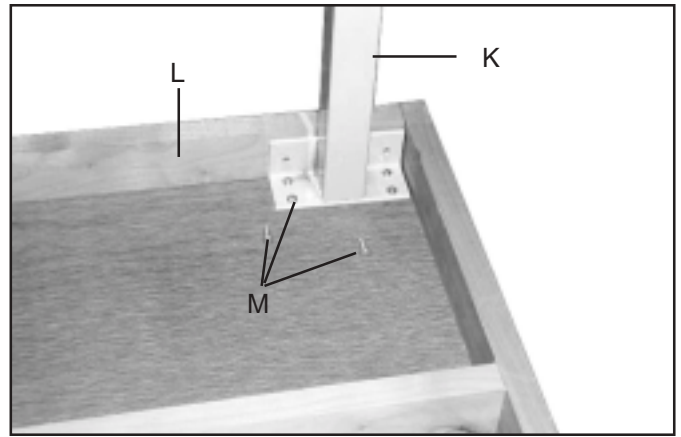

Fig. 19
10. Position leg (K) to bottom to location in table board (L) as shown in Fig. 19.
11. Attach the table leg (K) to the table board (L) with six 5/8" long wood screws (M). Repeat this process for the remaining leg.